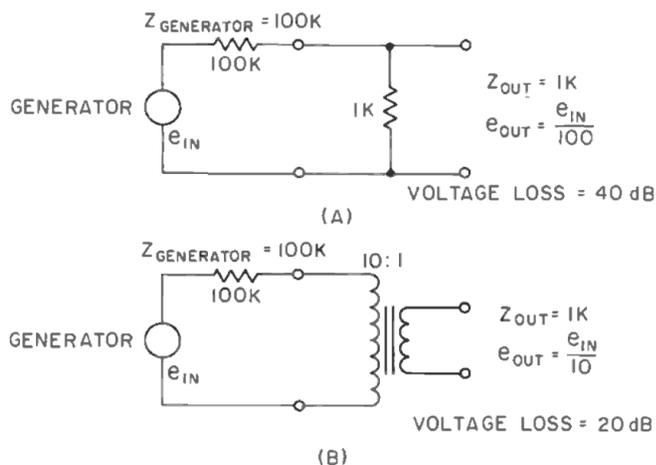

Figure 6. Impedance matching. At (A) a resistive network, and at (B) a transformer.
**Impedance Transformation.** Very often we wish to go from a high impedance circuit to a low impedance circuit. A transformer will accomplish this with the minimum possible loss. If we want to reduce the output impedance of the circuit shown in FIGURE 6(A) from 100 k to 1 k by means of a resistance network, the output voltage will be 40 dB down from the generator voltage. If we use a transformer with a primary-to-secondary turns ratio of 10:1 to change the impedance, then the output voltage will be down only 20 dB from the generator voltage (FIGURE 6(B)). By using a transformer for impedance transformation, we provide minimum voltage loss, and actually no power loss, at the low impedance output terminals.